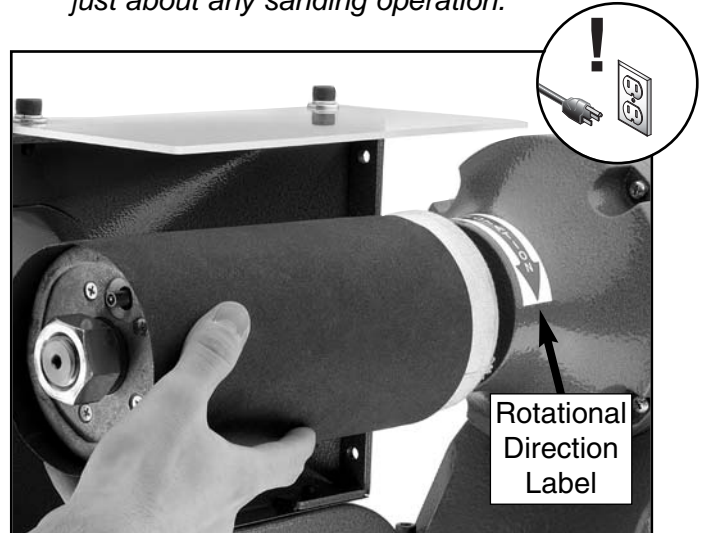

Figure 13. Sliding the sanding sleeve over the sanding drum.
4. Slide the sanding sleeve over the sanding drum as shown in **Figure 13**. If there is a directional arrow printed on the inside of an aftermarket sanding sleeve, make sure it matches the rotation direction label on the motor. Note—*The Model G0518 uses 4”D x 9”W sanding sleeves. The Grizzly Catalog offers a wide range of available grits to suite just about any sanding operation.*